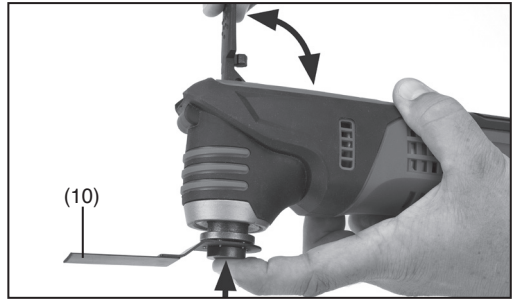

FIG. 6
6.3 FITTING THE TOOL ATTACHMENTS – FIGS. 6 – 7